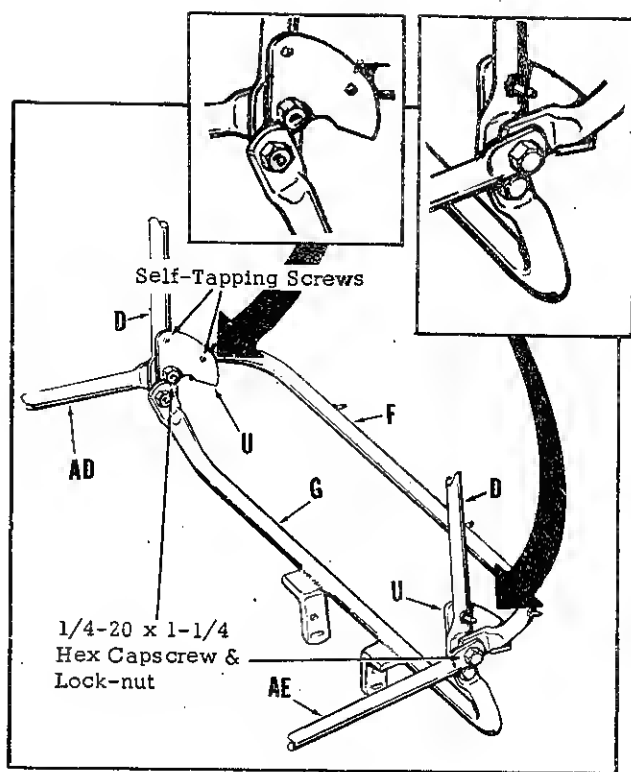

Figure 4
7. Assemble the Right Hand Bottom Brace (AD), the Lower Rear Frame (F), and the Lower Gusset (U) to the lower end of Vertical Frame (D) using a 1/4-20 x 1-1/4" hex capscrew and nut. Repeat this procedure for the opposite side. Two self-tapping screws fasten the lower gusset to the vertical frame (D) and lower rear frame (F). Refer to Figure 4.
9. Attach the Rear Pivot Tube (G) to the lower holes in the Vertical Frame (D) using 5/16-18 x 1-1/4" hex capscrew, spacer, flat washer, lockwasher, and nut. Refer to exploded-view of Summer Cab and to Figure 4.